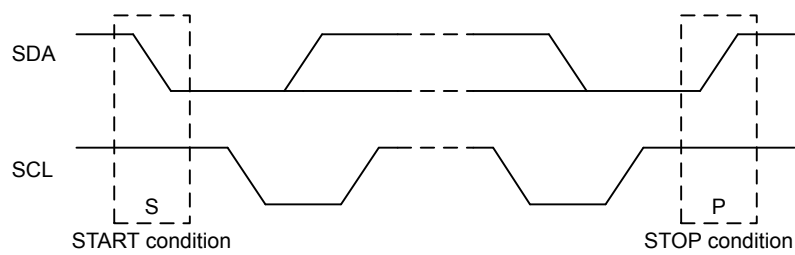

Figure 17.4. I2C START and STOP Conditions
START and STOP conditions are used to initiate and stop transactions on the I²C-bus. All transactions on the bus begin with a START condition (S) and end with a STOP condition (P). As shown in Figure 17.4 I2C START and STOP Conditions on page 450, a START condition is generated by pulling the SDA line low while SCL is high, and a STOP condition is generated by pulling the SDA line high while SCL is high.